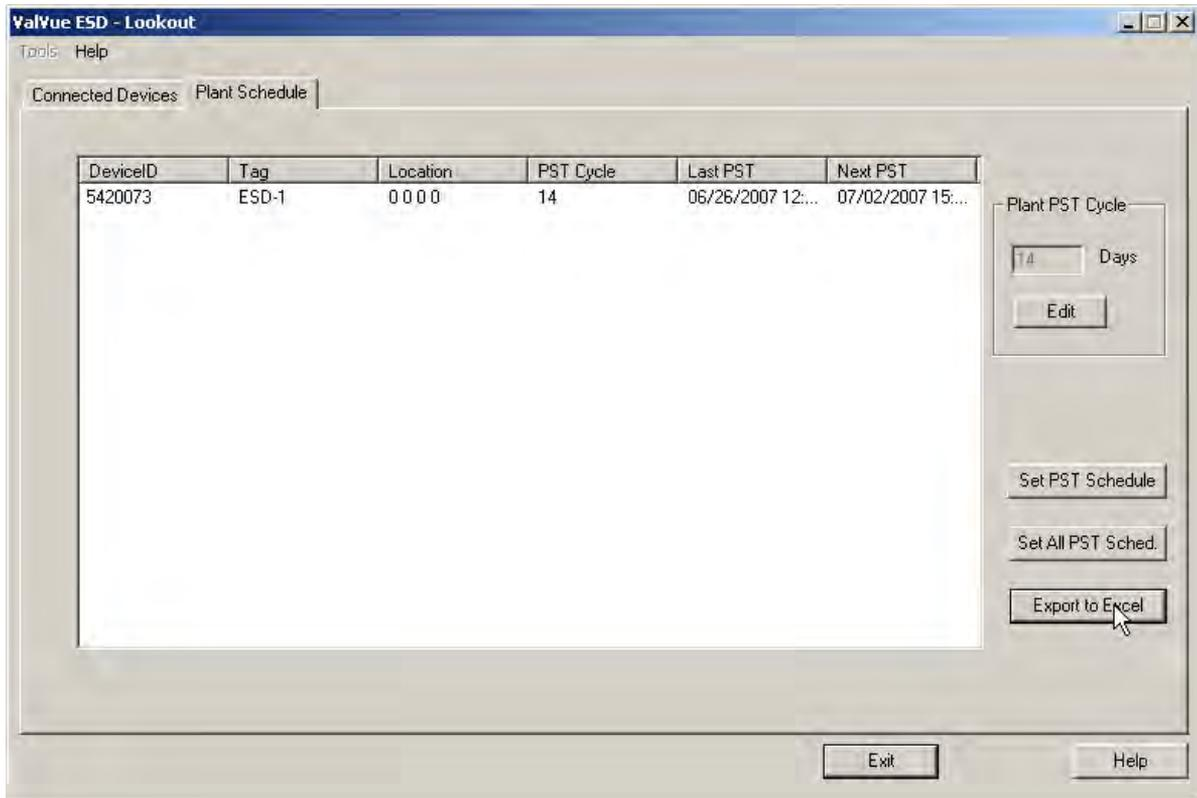

Figure 45 Selecting Export to Excel
- Click **Export to Excel** (Figure 45).